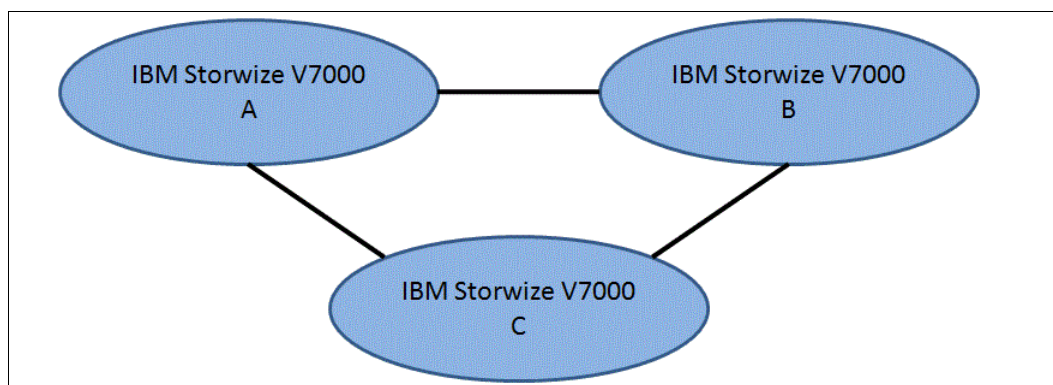

Figure 11-75 Triangle topology for IBM Storwize V7000
- ▶ Triangle topology (Figure 11-75)